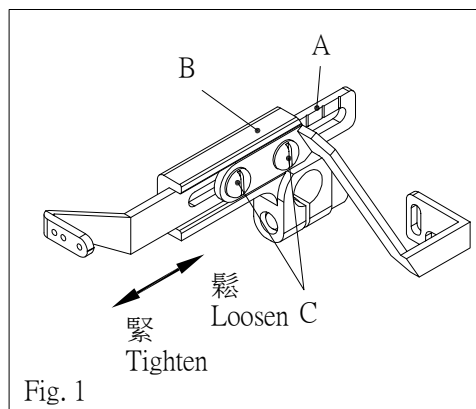
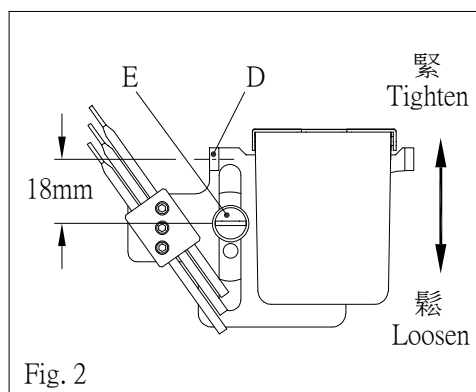

Fig. 1
Fig. 2
There are 6 marks on thread take-up A and the third mark line from right to left, should even with the edge of bracket B and can be adjusted by screw C and rear thread guide's D portion as shown on illustration, can be adjusted by screw E. And both can be adjusted according the arrow direction in order to obtain tighten or loosen effects. (Fig. 1、2)
When left needle comes down to the half point the thread A must get off from the highest position of looper thread take-up C. The adjustment is made by loosening screw B, turn the looper thread take-up C to the proper position and tighten the screw B. (Fig. 1、2)
It will be easier to conduct some adjustments by taking off the presser foot as follows : Loosening screw B in order to loosen stopper B, loosening screw D and collar screw E pressing down level A, lifting needle bar in order to take off presser foot. (Please refer to Fig. 1 and Fig. 2)
When needle bar reached to its lowest dead point, the ridge line C of rear needle guide (A) should be positioned at the center of right needle eye B. (Fig. 1)
0.2~0.3 mm and the clearance between rear needle guide and leftest needle D should be 0~0.05 mm by then, the clearance between looper F and rightest needle E should be 0~0.05 mm and looper should touch middle needle lightly and the clearance between rear needle guide and leftest needle D should be 0.2~0.3 mm. (Fig. 2)
How to set the angle and timing of front needle guide : When looper B reach the center of left needle A, the ridge line D of frons needle guide C should positioned at 1.5~2.0 mm above from the tip of needle and the clearance between left needle A and front needle guide C should be 0~0.3 mm and when looper B retreated to right needle E, the clearance between needle and front needle guide C should be 0~0.3 mm. (Fig. 1、2)